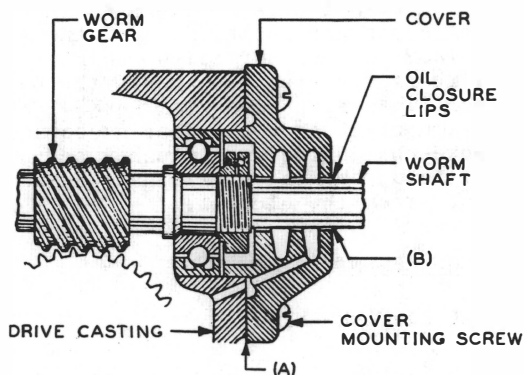

Fig. 1 - Sealed Joints and Oil Closures
2.02 Leakage at Sealed Joints: Fig. 1(A), 2(A), and 3(A)
2.03 Leakage at Oil Closures: Figs. 1(B), 2(B), and 3(B)